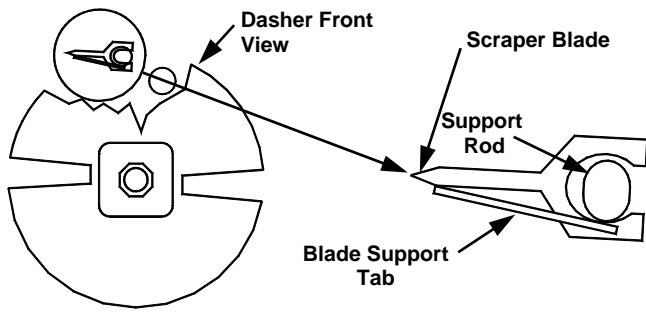
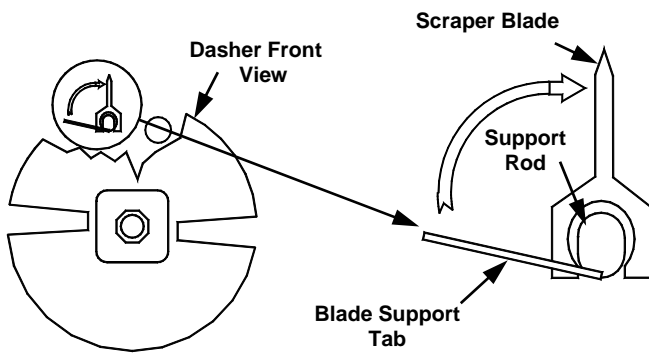

Fig. 9a
Fig. 9b
- c. Remove the blades from the dasher (Fig. 9a) by first rotating blade upward (Fig. 9b) and then unsnapping one end from the support rod.